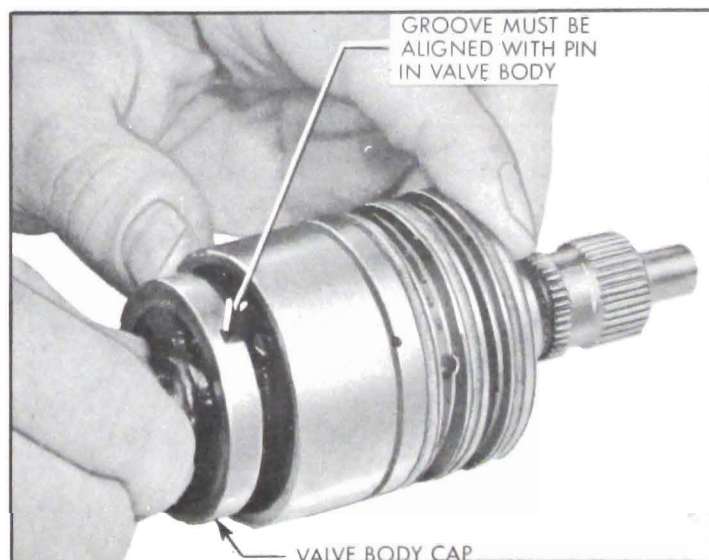

Figure 8-39—Assembling Stub Shaft, Torsion Bar and Cap Assembly in Valve Body
3. Assemble the stub shaft torsion bar and cap assembly in the valve body, aligning the groove in the valve cap with the pin in the valve body. See Figure 8-39. Tap lightly on the cap with a soft mallet until cap is against the